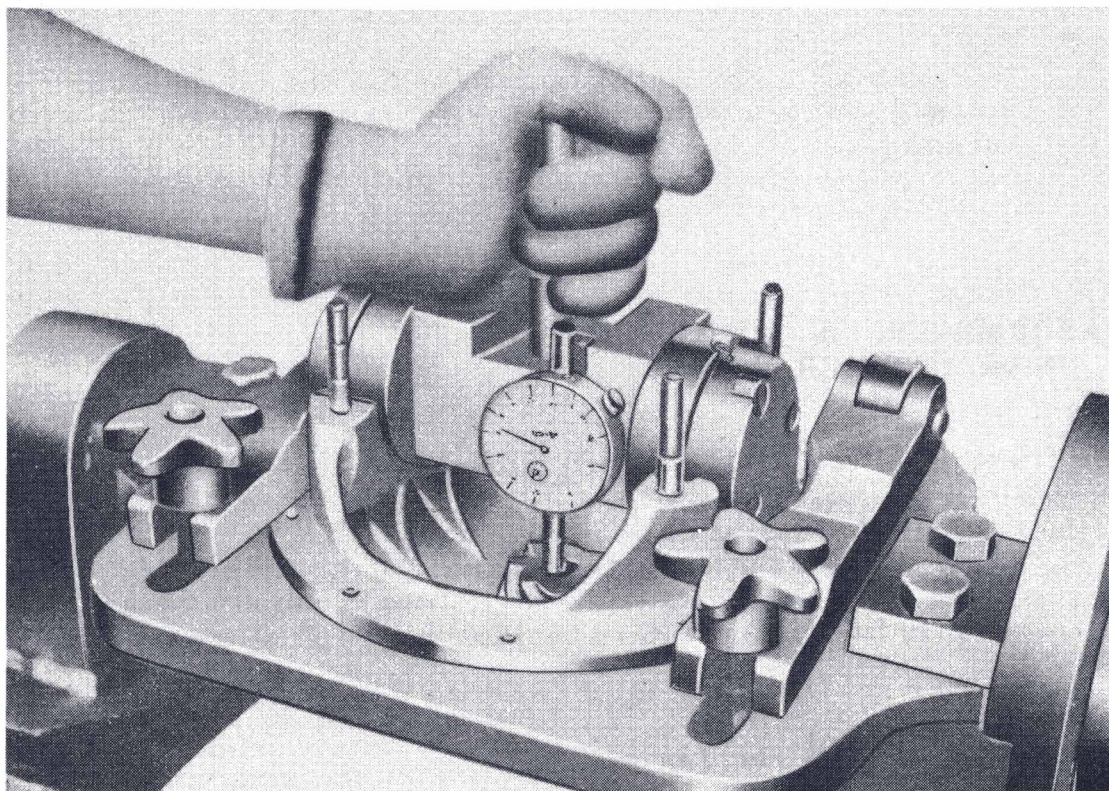

Fig. 9 Adjustment of pinion height
The drive pinion bearing outer race replacer as illustrated in Fig. 9 should be employed in this case. In other upon the stud so as to make the screw at the center of carrier, and set the adapter at the lower frim of the race.
- (13) To pull out the front bearing outer race from the gear carrier, set the tool body (3) as illustrated in Fig. 9 pull it out with adapter (B) in the way of rear race.
The construction and mechanism must well be comprehended referring to Fig. 9 & 11 and the adjustment & repairing exactly according to the condition of practical use based on the adjustment by exact calculation.
- (2) There are few numbers with 0 & + or - besides set number marked by an electric pen on the tip head surface of drive pinion. They show the manufacturing variation in a figure at the unit of 0.001 in. (0.025mm) to decide the thickness of adjusting shim for adjustment of standard position (The standard pinion height is 51.0mm from axle center as shown in Fig. 9 & 11.
There is a marked numeral of adjusting basis on the bearing housing of the gear carrier and differential case. The numeral is the manufacturing variation in a unit of 1/1000 in., against each standard measurement of A.B.C.D. in Fig. 9. To measure the width of the side bearing on left and right, use the standard gauge (20.0mm thickness) and dial gauge on a flat board. In this case, place the load on the bearing with the aid of weight block for about 2.5 kg to acquire the steady figures. Calculate the manufacturing variation on minus side against the each standard measurement of 20.0mm on the unit basis of 1/1000 and assume each of them as E & F. Take the left side bearing, for example. When the measured width is 19.8 mm, it is -0.2mm. (-0.008 in.) against the standard measurement and the E is, by excluding the minus sign, 0.008in. The thickness of the shim is acquired by applying the numerals to the following method of computation.